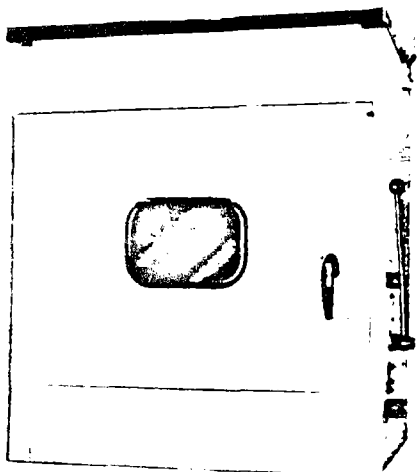
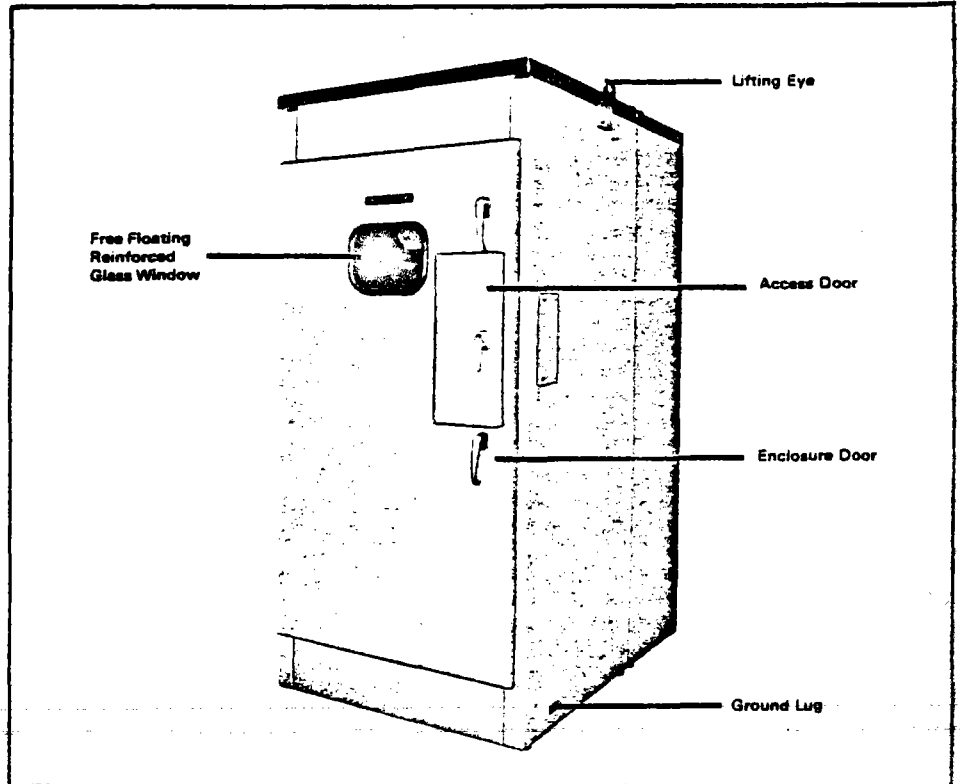
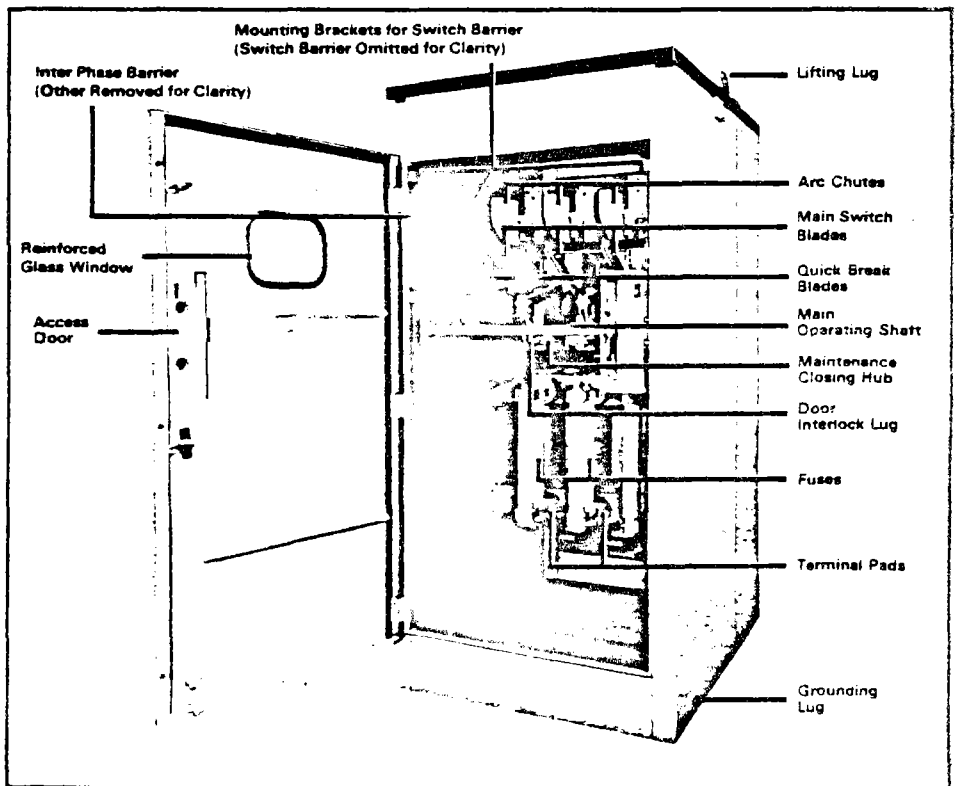

Figure 19A
Figure 20
Figure 21
Enclosures for the type AWP switch are available for side operated, wall mounted, unfused units, Figure 19A, as well as the fused units which can be side or front operated. 5 kV through 15 kV These enclosures are made of 11 gauge steel and are of bolted construction, Figure 20. All steel used in the enclosure is cleaned and phosphatized in preparation for painting. The paint used in standard production is light gray ANSI-61 for indoor applications and ANSI-70 for outdoor applications.
Each enclosure door contains a window through which the switch unit can be observed. The window is tempered reinforced glass which meets all applicable standards and is free floating in a rubber molding. (See Figure 20) The door of each enclosure is mounted on three (3) hinges and latches at three (3) points with two (2) handles. Figure 21.
Each enclosure door of the front operated unit is equipped with an access door through which the switch may be operated, Figure 20. Each enclosure door is equipped with a door interlock which prevents opening the enclosure door when the switch contacts are closed, Figure 21, and utilizes the open door interlock as described on page 6 under door interlock features.
AWP Switches 5.0 kV to 15.0 kV can be obtained in weatherproof and dust tight enclosures. The standard outdoor enclosure is supplied with a conduit adapter but roof bushings are available. Other equipment which can be mounted in the enclosure includes auxiliary switches and potheads. All enclosures are furnished with grounding lugs. Figure 21.